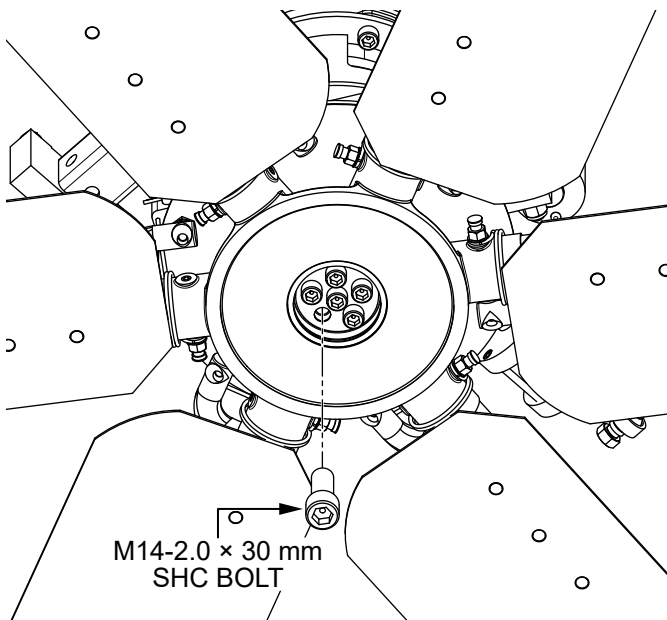

Figure 62. Install Five New Bolts
9. Install the five new **M14-2.0 × 30 mm SHC bolts** as shown in Figure 62. Torque the bolts in a star pattern to 60 lbf·ft (81.3 N·m).